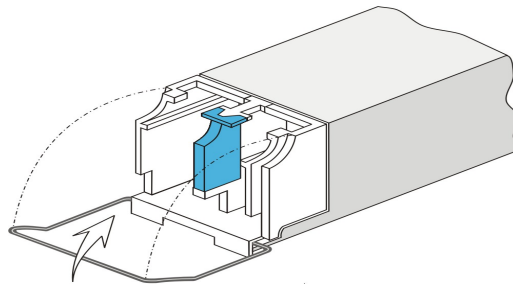

Figure 2-1. Locking the Latch Wire of a Typical SFP
1. Lock the latch wire of the SFP module by lifting it up until it clicks into place, as illustrated in Figure 2-1.
3. Orient the SFP as shown in Figure 2-1, and then insert the rear end of the SFP into the module socket.